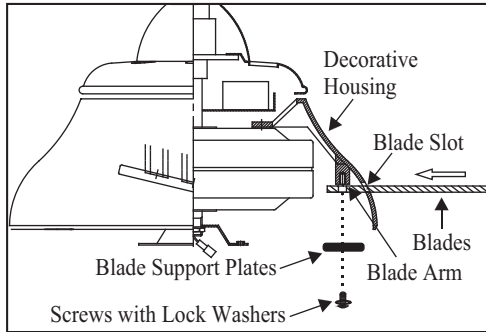

Figure 13
1. Insert the blade through the blade slot in the decorative housing. Align the holes in blade and blade arm, place the blade arm plate on blade as showing in Figure 13, making sure the holes are also aligned and secure with lock washers and screws provided.